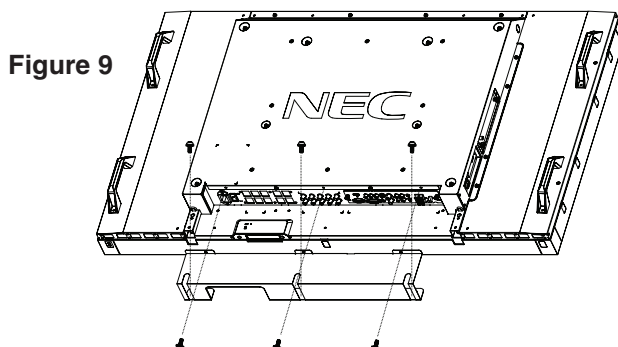

Figure 9
- Use six of the M4 x 10 screws (included) to attach the cable cover (Figure 9).